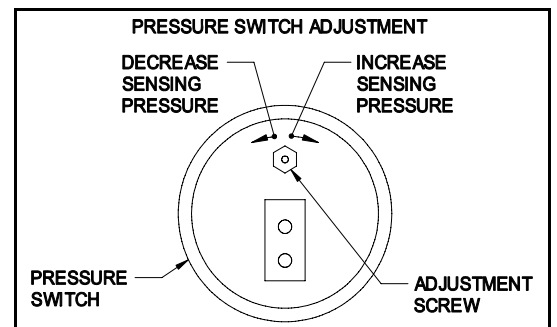

Figure 6
3. Rotate the adjustment screw an additional $\frac{1}{4}$ turn counterclockwise to insure proper switch setting. (See Figure 6)